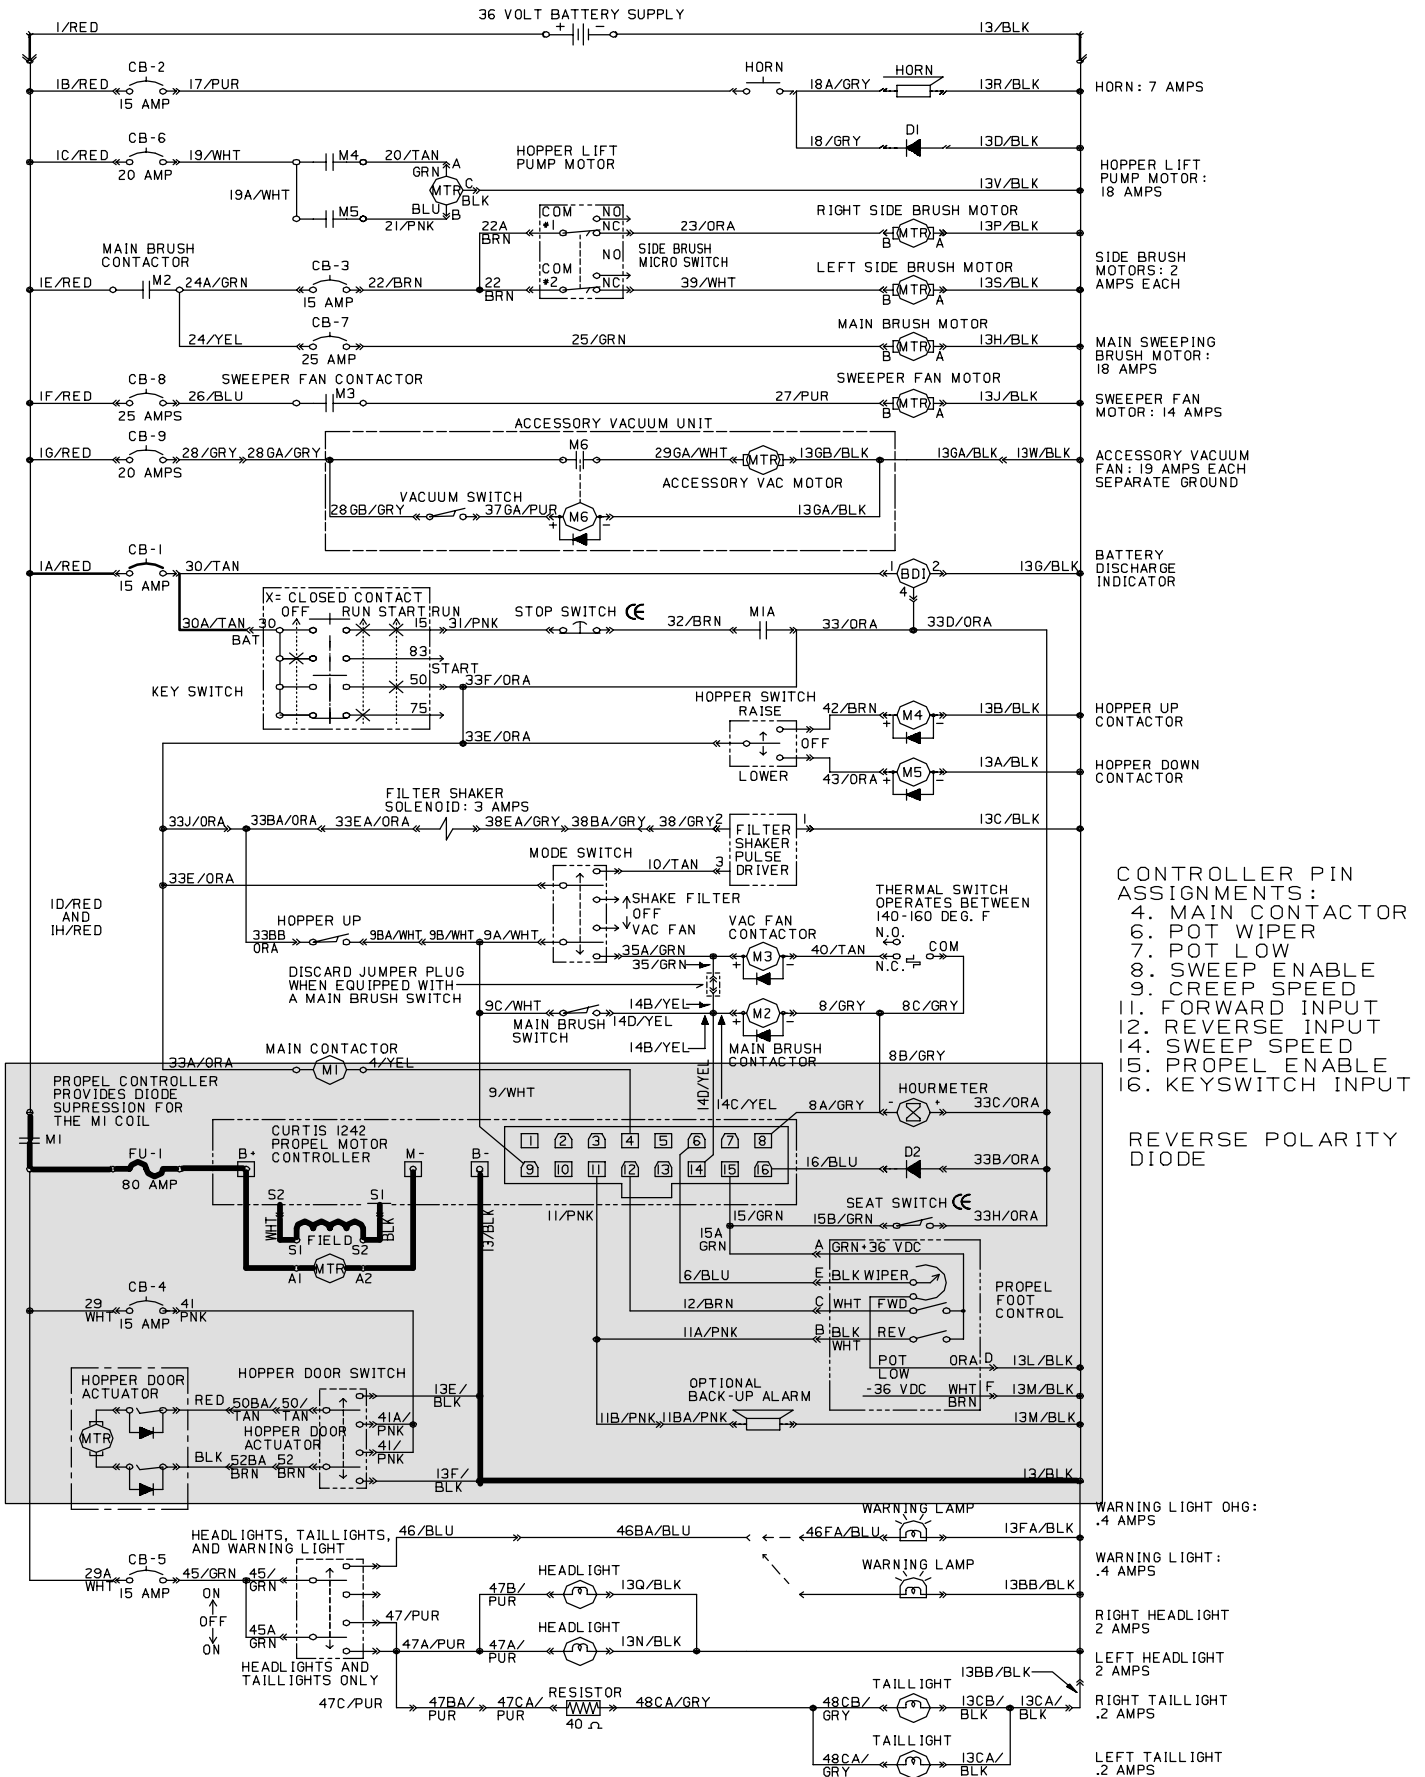

Fig. 4
1. Power Circuit. (see Fig. 4)